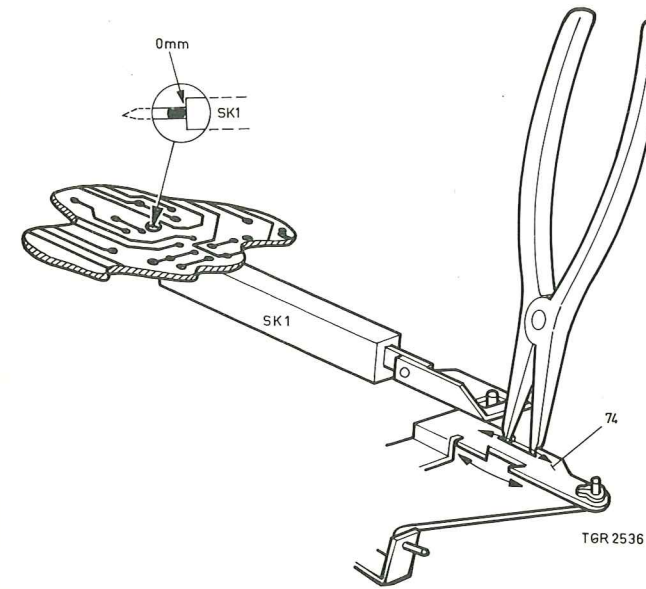

Fig. 9
Switch SK1 (see Fig. 9)
- Adjust the slide of switch SK1 so that the clearance between the first marking spot on the slide and the casing of the switch is 0 mm (see Fig. 9). (The marking spot is visible through a hole in the p.c. board.)